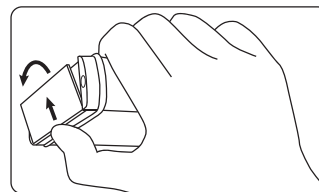

Fig. 1-2: Opening hinged cover
- ☞ Open the hinged cover fully as shown in Fig. 1-2.